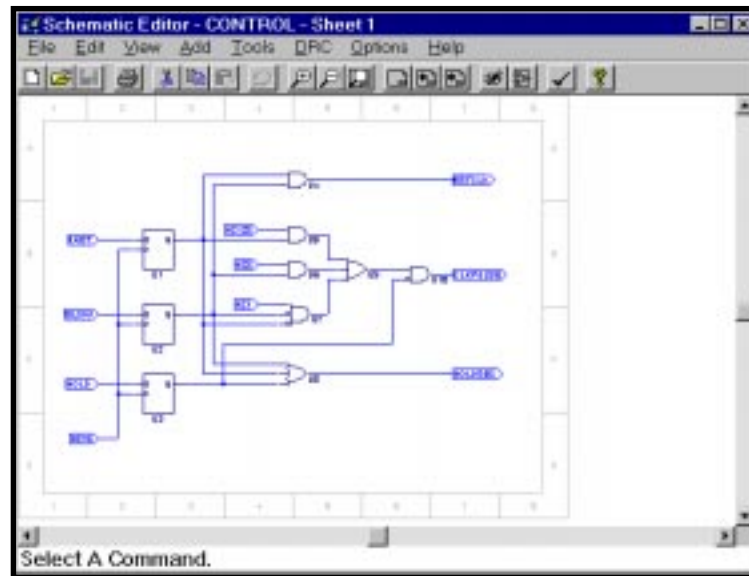

Figure 3-8. Schematic Editor with Sample Schematic File
5. Highlight the **Schematic** icon and note the processes associated with it. Use the Schematic Editor or just double-click the `*.sch` icon from the Sources list to view the schematic (Figure 3-8). The Schematic Editor is available from the **Windows** ⇒ **Schematic Editor** menu item in the Project Navigator.